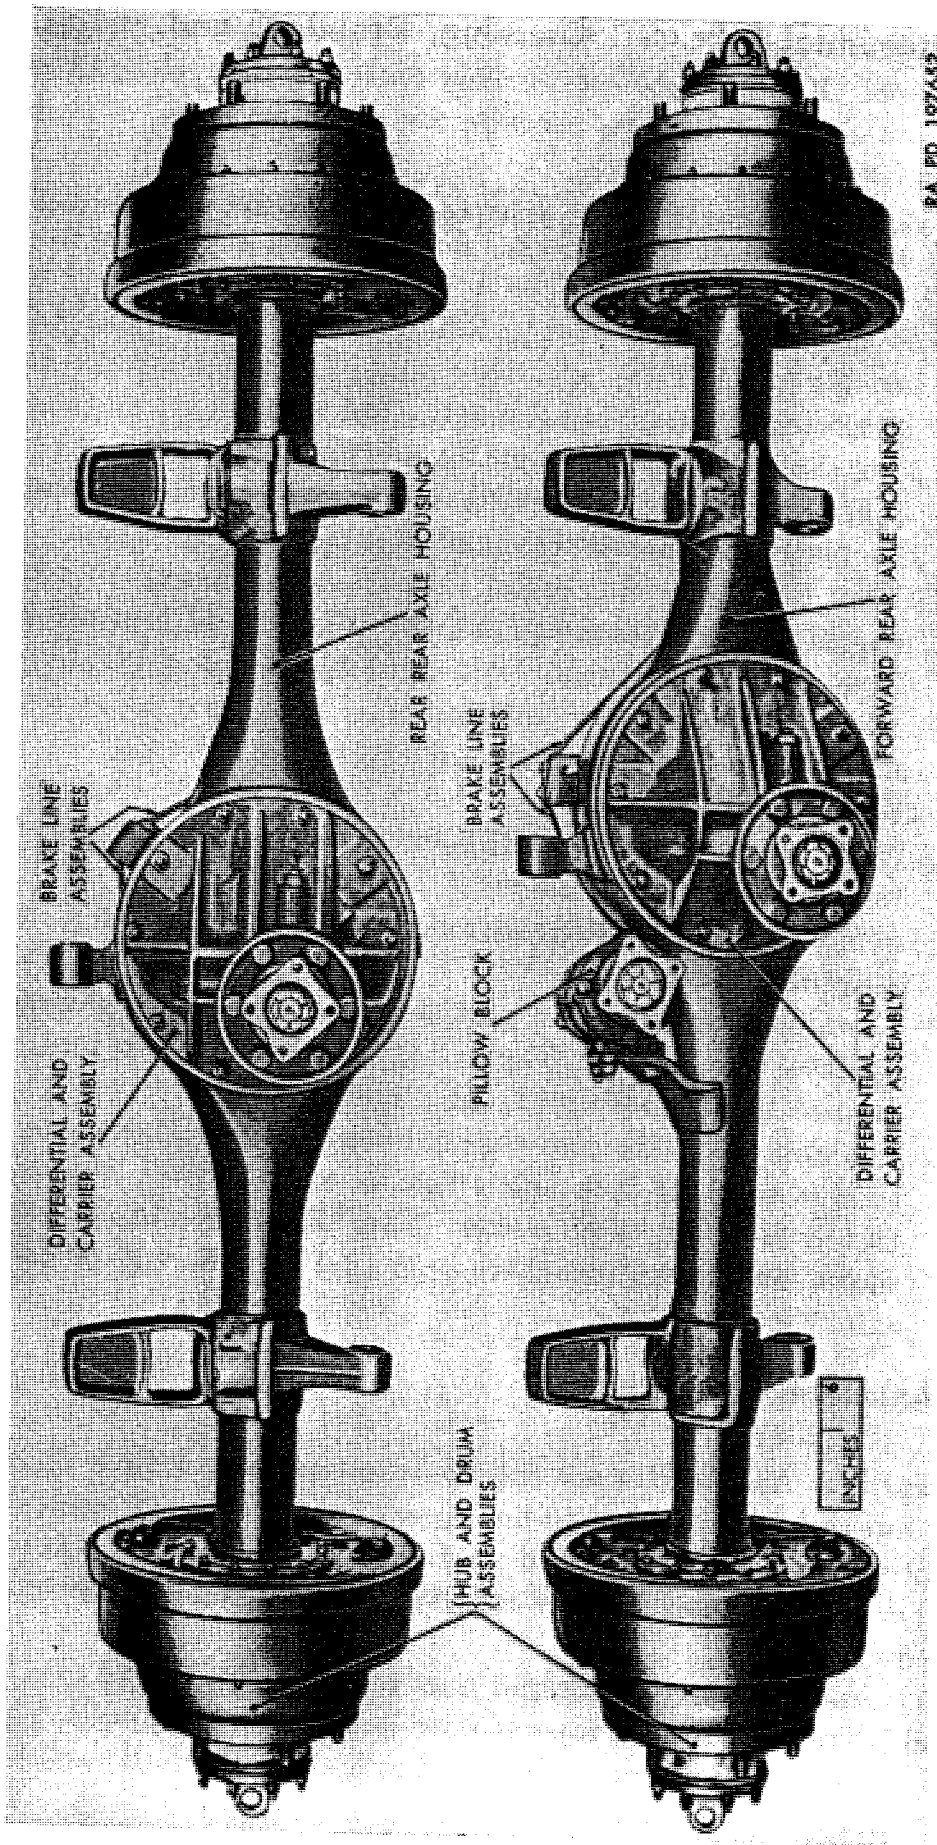

Figure 234. Forward and rear rear axle assemblies removed.
223. Description and Data (fig. 234)
b. General. Forward rear axle assembly includes axle housing, differential and carrier, axle shafts, hub and drum assemblies, and brake line assemblies. Pillow block is also removed and installed with the axle assembly (fig. 234).
b. *General.* Rear rear axle assembly includes axle housing, differential and carrier, axle shafts, hub and drum assemblies, and brake line assemblies (fig. 234).